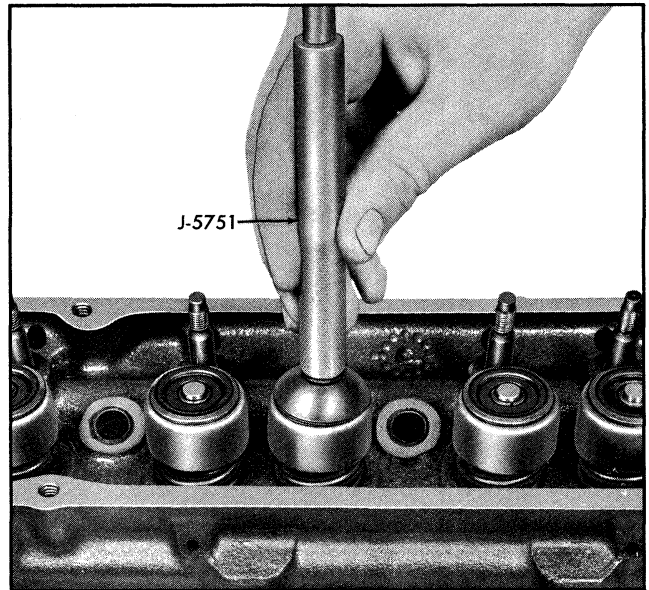

Fig. 6-97 Checking Valve Stem Seal
1. Install new part or parts, compress springs with valve spring compressor J-6384-1 and nut J-8929-2 (while holding valve up with holder J-5961-2), install valve stem seal and retainer cup locks. Remove spring compressor and valve holder, then test valve stem seal using suction cup end of tool J-5751 (Fig. 6-97).